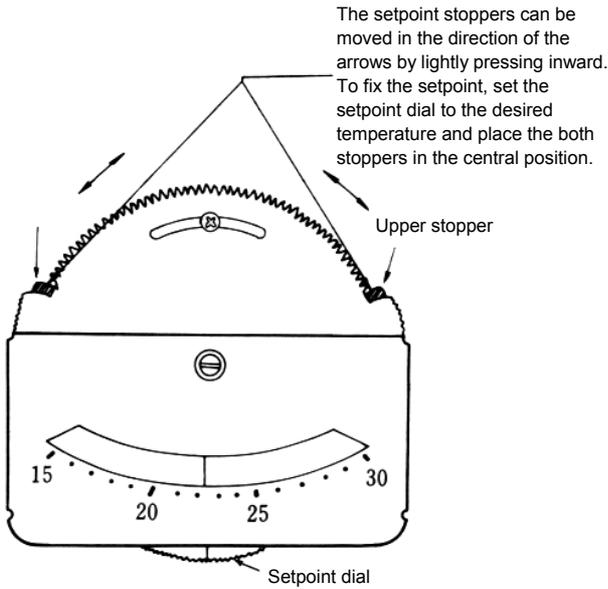
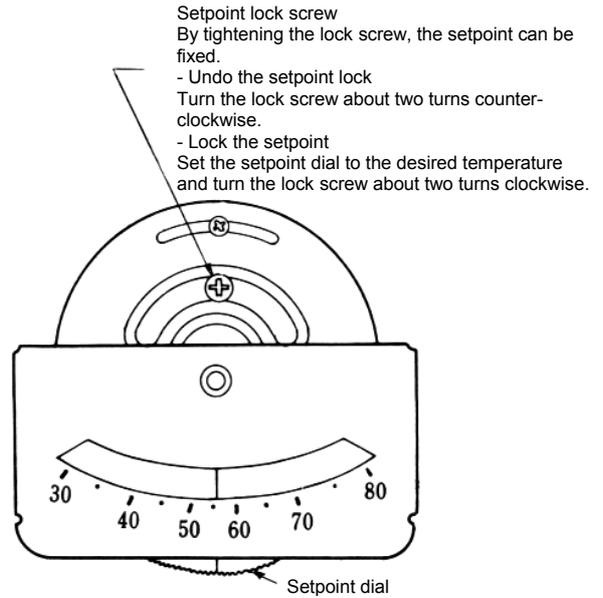

Fig. 8 Temperature controller
Fig. 9 Humidity controller
3. The temperature controller have setpoint stoppers (Fig. 8) and the humidity controller have a setpoint lock screw (Fig. 9). The Neostat is shipped from the factory with setpoint dial locked in the position as follows: